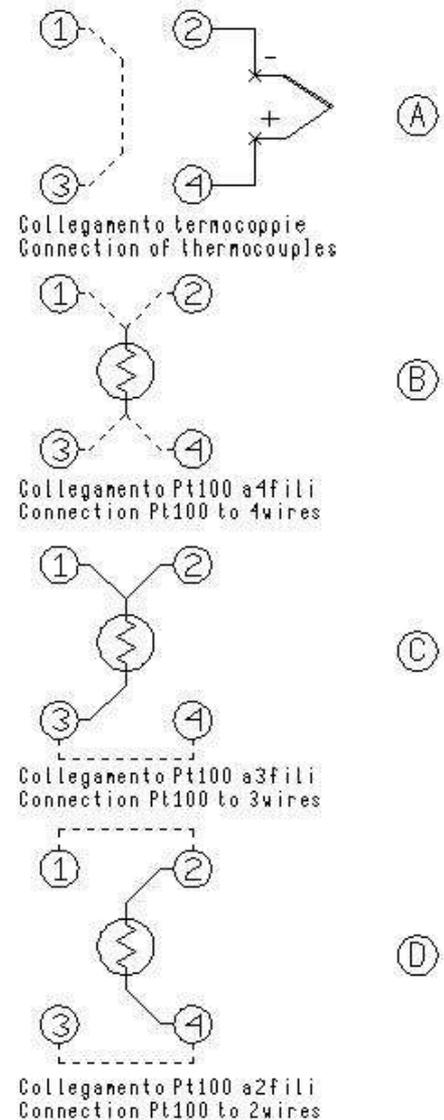

Fig. 7
- Connect the probe's wires to the clamps (15) as it is indicated in the figures.
- ◇ Thermocouple – connect the wires to the clamps 2-4 to make attention to the polarity; connect the clamps 1-3 as indicated. Reference to figure 7-A and select the thermocouple.
- ◇ Pt100 to 4 wires – connect the clamps 1-2-3-4 as indicated in figure 7-B and select Pt100.
- ◇ Pt100 to 3 wires – connect the wires to clamps 1-2-3; connect the clamps 3-4 and select Pt100 3W. Reference to figure 7-C
- ◇ Pt100 to 2 wires – connect the wires to clamps 2-4; connect the clamps 1-2 & 3-4; select Pt100. In case of two wires connections remembers to us shortest wires possible. Refer to figure 7-D